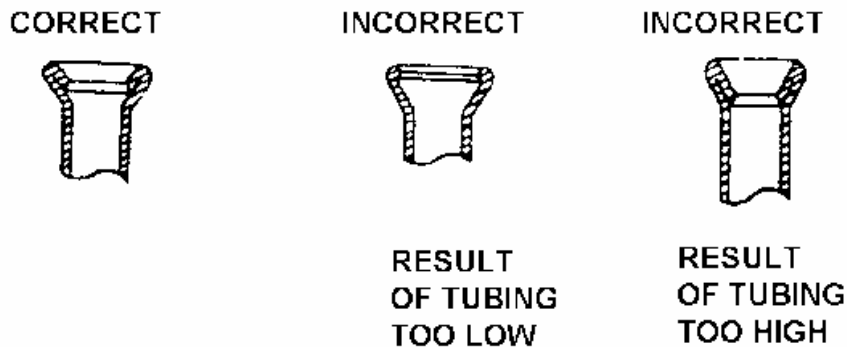

Figure 9. Tubing Position and Resulting Flare
n. Tap ram lightly until a good seat is formed (Figure 9). Refer to Table 3 for correct dimensions.
Correct use of the double flare tool will give a perfect flare. The tool is designed for 5/16 inch tubing and automatically flares to the correct outside diameter of 0.411 to 0.421 inches. Incorrect double flares should be cut off and another flare made. (See Figure 9) A short inner flare should not be used because of the short bearing surface for the fitting nipple. The short inner flare is caused by inserting the tubing too low in the clamp blocks or by the tubing slipping during the flaring operation. Improper tightening, jamming of tightening screw, or dirt on the inner surface of the clamp blocks will cause the tubing to slip. A long inner flare should not be used because it will restrict the flow passage. The long inner flare is caused by improper gauging.
23. Presetting Tube Ends For Flareless Fittings. When presetting tube ends, a hand pre-setting tool (Table 6) or a standard flareless fitting body may be used. If a standard fitting body is used, do not use an aluminum fitting body more than once or a steel fitting body more than five times for presetting. Presetting procedures for flare-less fittings conforming to long sleeve AS 21922 and short nut AS 21921 (Figures 9 and 10) are as follows: